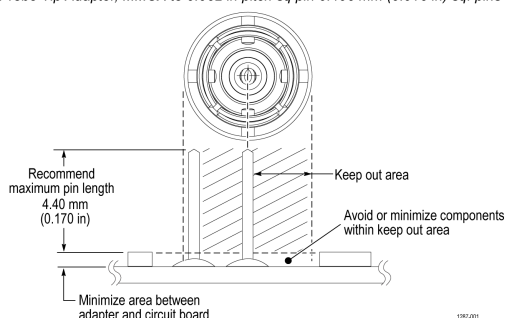

Figure 20: Adapter clearance requirements
The solder pins can be installed around a surface mounted component on the circuit board, but adequate clearance should be maintained for a good electrical connection for the adapter. Figure 20: Adapter clearance requirements on page 43
3. If necessary apply a small amount of adhesive to further strengthen the connection to the circuit board. However, keep the height of the adhesive to a minimum to provide good electrical contact for the adapter. Figure 20: Adapter clearance requirements on page 43